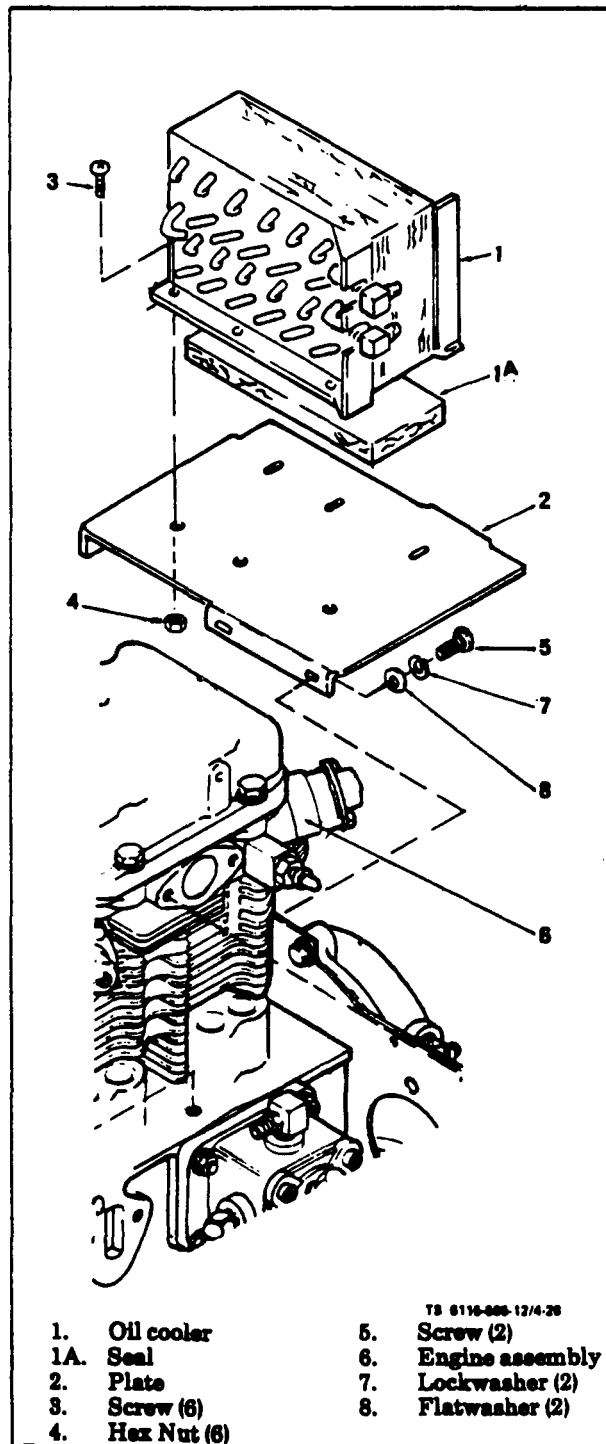
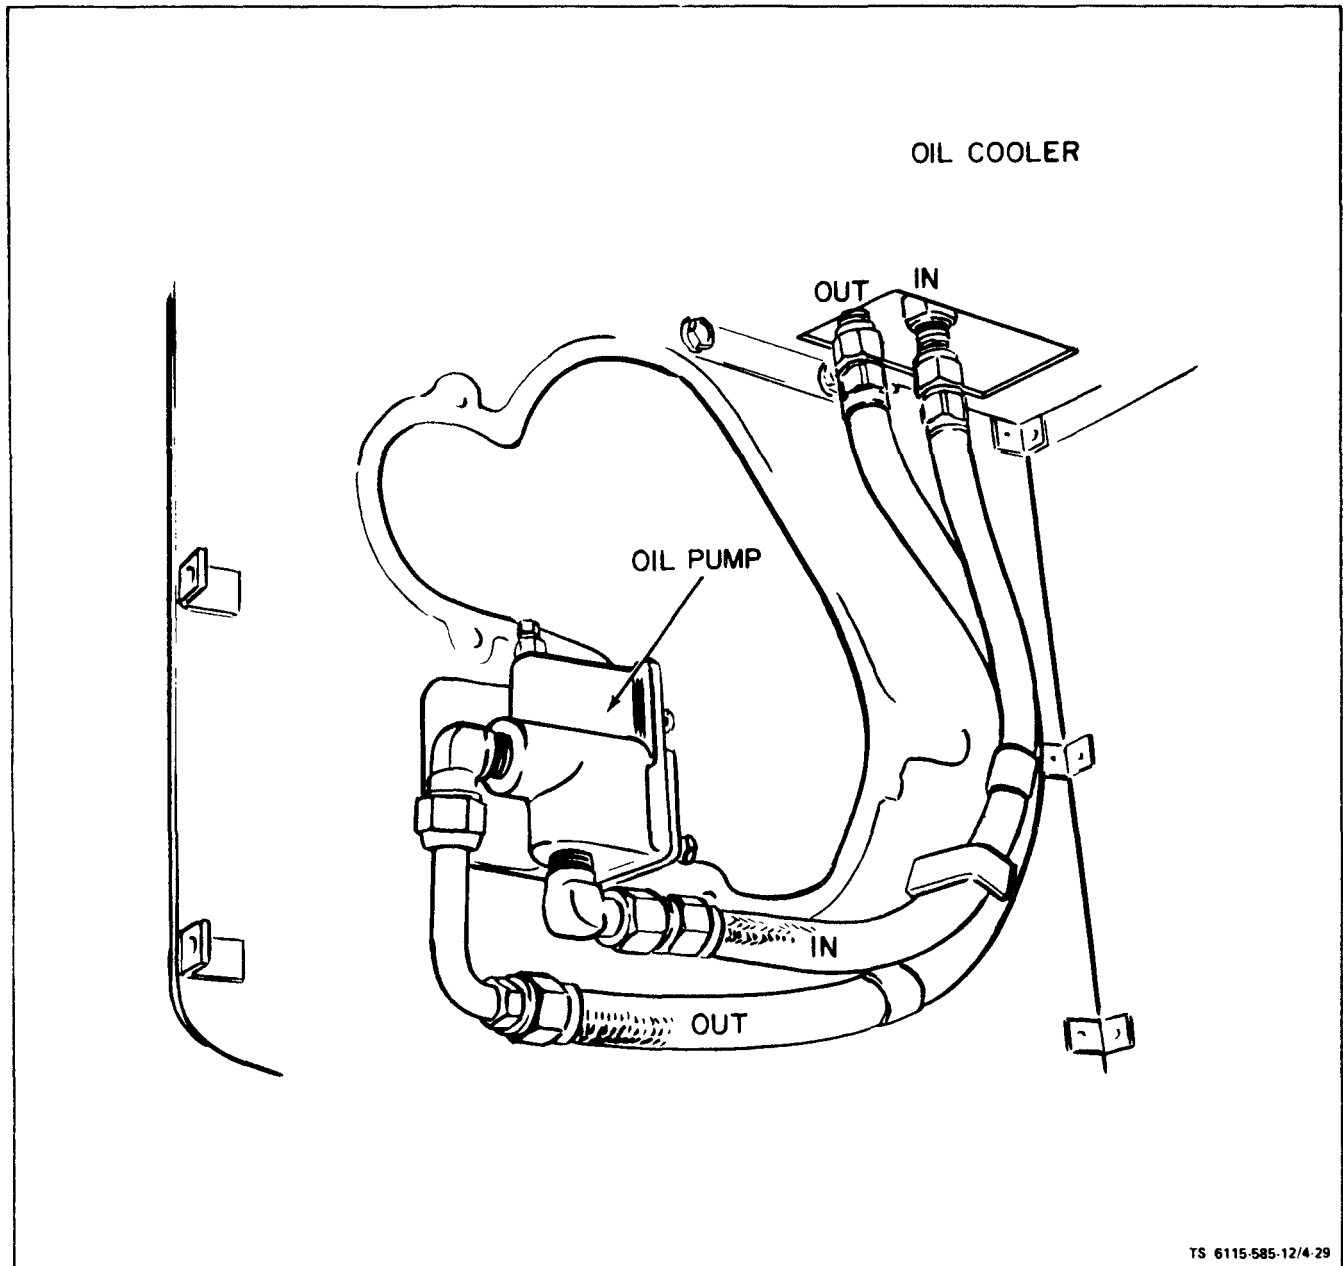

Figure 4-28. Oil Cooler Assembly
Figure 4-29. Replacing Oil Cooler Hoses
a. Inspect (see figure 4-28). On ASK equipped generators, remove ASK cover assembly (para. 5-3). Inspect oil cooler (1) for physical damage. Visually check for leaks where oil cooler is connected to oil hoses (figure 4-29 or 4-29.1). Check that cooler is securely fastened to mounting plate (2, figure 4-28) and that plate is securely fastened to engine. Inspect oil hoses
for leaks and physical damage. inspect seal (1A, figure 4-28) and replace if damaged. Blower housing must be removed to inspect cooler and hoses.
c. Remove. Remove blower housing. Disconnect oil cooler hoses at valve of oil filter adapter (see figure 4-29). Drain cooler into suitable container. Remove machine screws (3, figure 4-28) and hex nuts (4) attaching oil cooler (1) and oil cooler seal (1A) to mounting plate (2) and remove cooler (1). Remove and check hoses. Plug hose if not used immediately.
d. Replace. install oil cooler (1) and oil cooler sea (1A) on mounting plate (2) and secure with screws (3) and hex nuts (4). Attach oil hoses to cooler as shown in figure 4-29 or 4-29.1. Replace blower housing shown in figure 4-29 or 4-29.1. Replace blower housing. Replace any oil lost. On ASK equipped generators, replace ASK cover assembly (para 5-3).